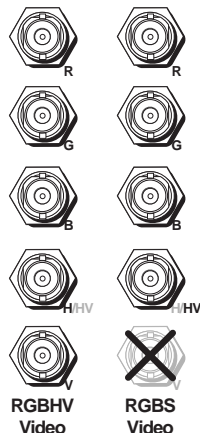

Figure 2-6 — BNC output connections for RGBHV and RGBS video
- ④ **Video output BNC connectors** — Connect RGB video displays to these two sets of female BNC connectors. Figure 2-6 shows how to connect the various video formats.